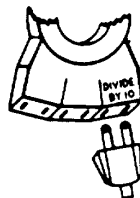

Figure 4
- (1) Plug line cord of appliance or apparatus to be measured into the "DIVIDE BY 20" outlet of Model 101, (Fig 4).